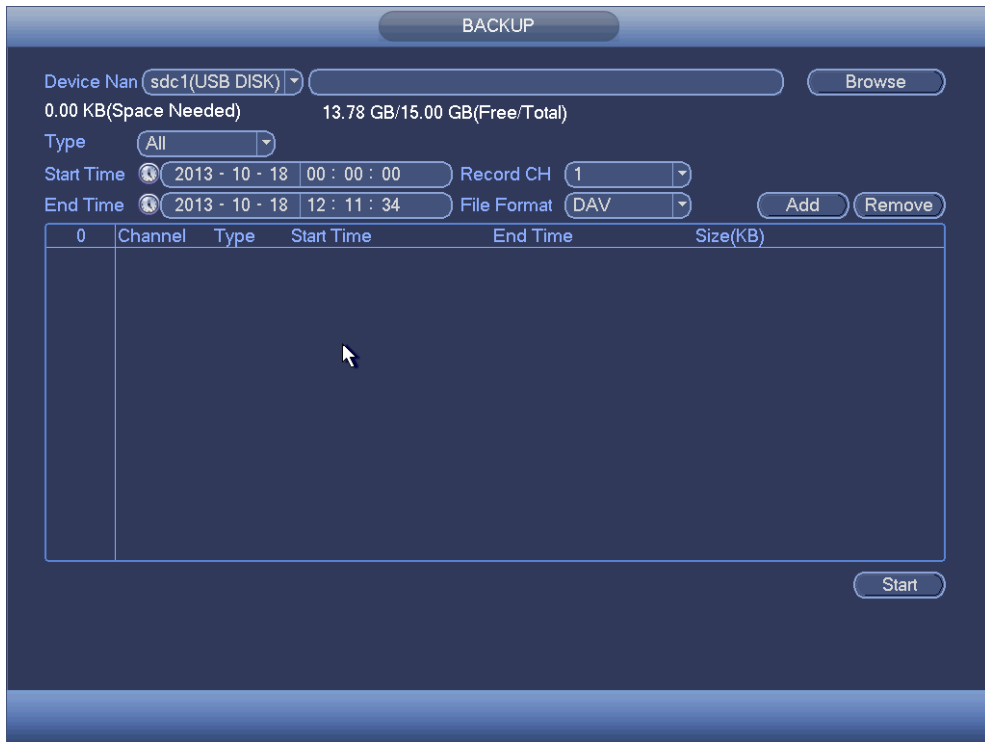

Figure 4-231
- b) From Main menu->Backup, you can go to the Backup interface. See Figure 4-231